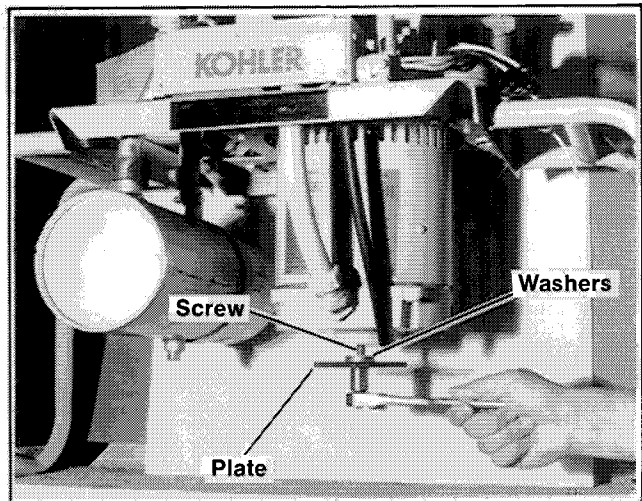

Figure 5-10. Installing End Bracket with Mounting Plate
- If rotor has a tapped hole in shaft, assemble plate and washers on screw and thread on rotor shaft. See Figure 5-10. Tighten screw to draw end bracket/tolerance ring onto rotor bearing. When tightened, end bracket lip should fit snugly in stator shell. Remove mounting screw from rotor shaft.